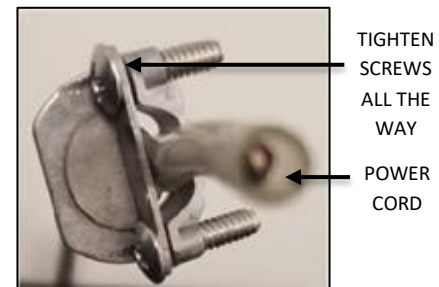

FIG. 28 – STRAIN RELIEF WITH CORD INSERTED
4. Insert CORD through the STRAIN RELIEF and tighten two SCREWS on the STRAIN RELIEF above the all-thread where marked. If screws are not properly tightened CORD could slip; through the STRAIN RELIEF, causing the fixture to fall. see detail as shown in FIG.28.